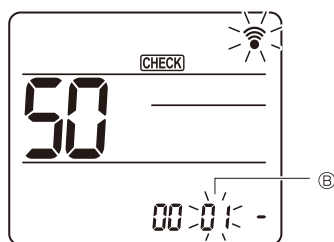

Fig. 3
Press the **DOWN** button to set Mode number ②. (Fig. 3)